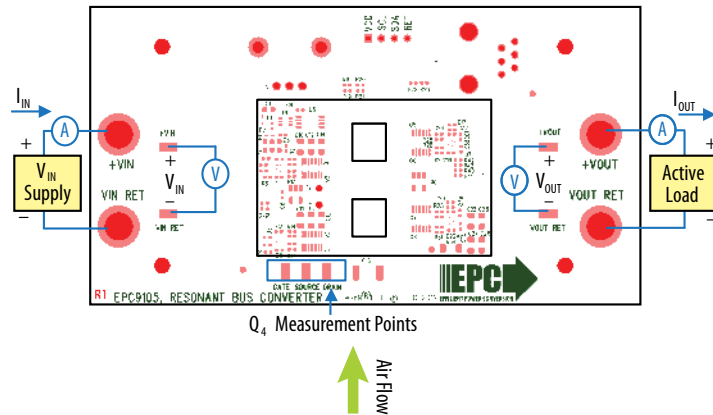

Figure 3: Proper Connection and Measurement Setup
The EPC9105 Demonstration board is easy to set up to evaluate the performance of the EPC2001, EPC2015 eGaN FETs and the LM5113 driver. Refer to Figure 3 for proper connection and measurement setup and follow the procedure below:
5. Turn on forced air cooling oriented in the direction shown in figure 3. For maximum current and power (output current ≤ 30 A for output power ≤ 350 W); use a minimum fan speed of 400 LFM.